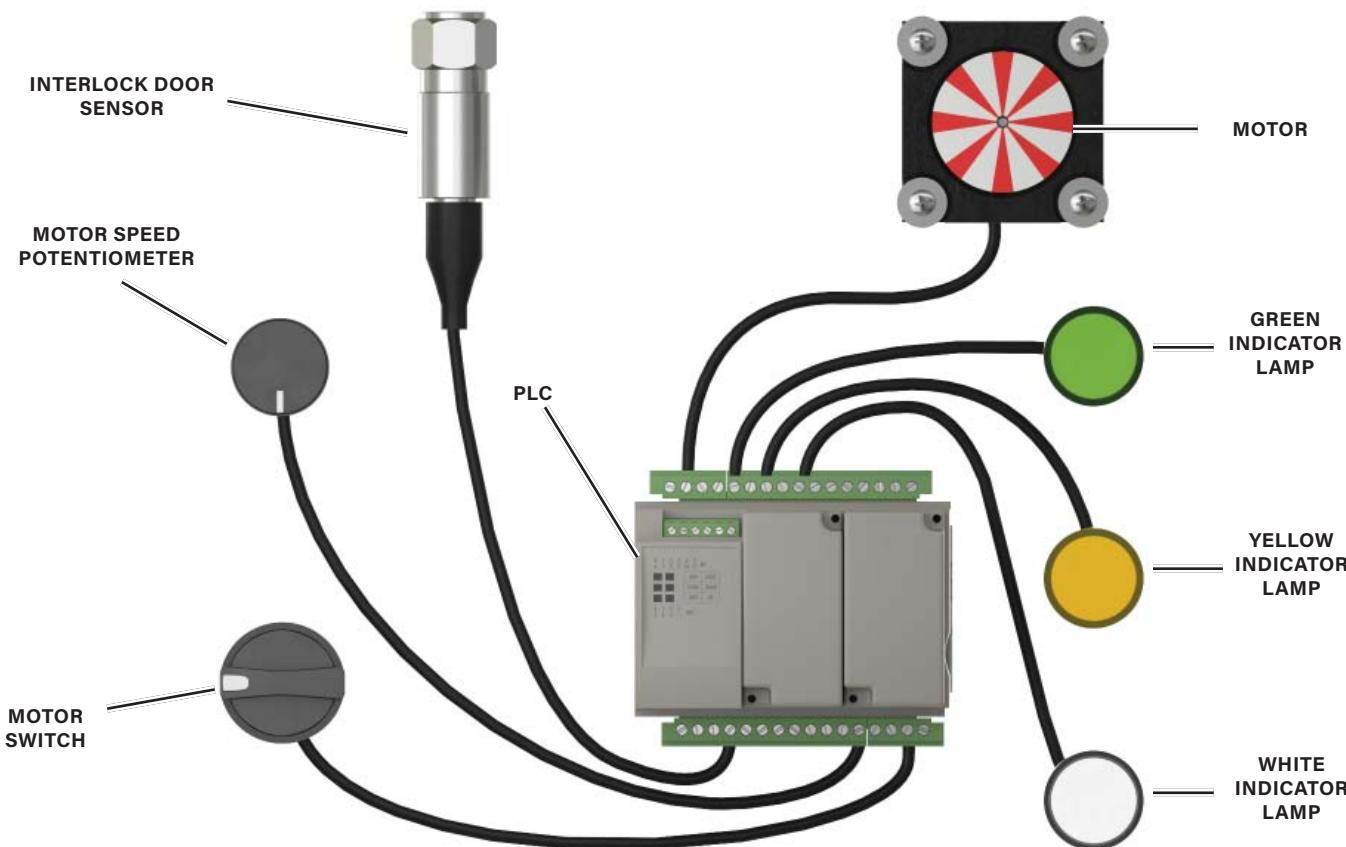

Figure 4-7. Diagram of Production Application Inputs and Outputs
7. Examine the control diagram of the production application in figure 4-7.